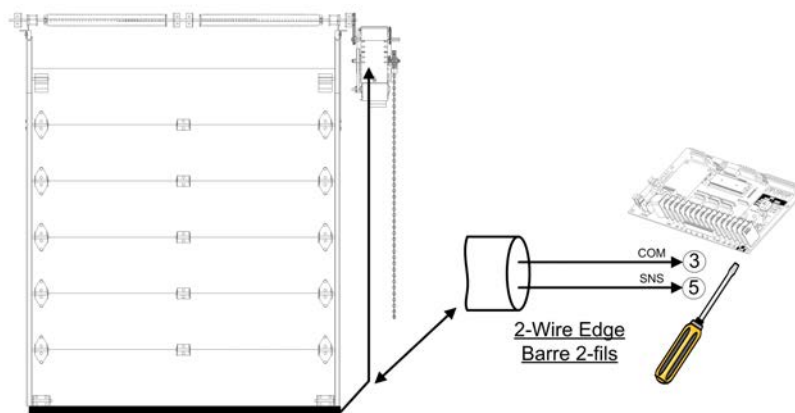

Figure 25 - Electric Reversing Edge
3. Use a coil cord or take-up reel to connect the sensing edge wires to the operator terminals. Install electric wires according to Figure 25.